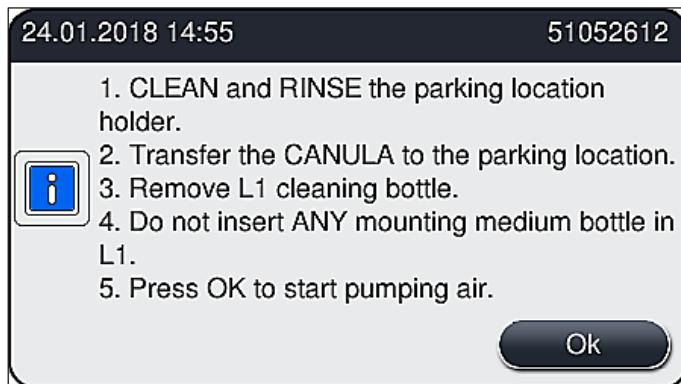

Fig. 106
4. Take note of the next information message (→ Fig. 106), which contains instructions, and acknowledge with the Ok button.